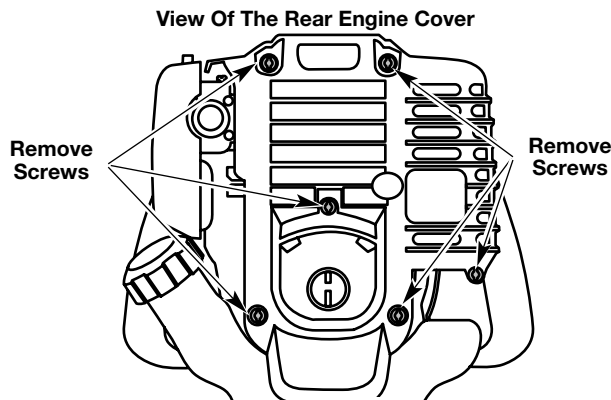

Fig. 51
1. Remove the six (6) screws on the back of the engine cover with a Flat-head or T-25 Torx screwdriver (Fig. 51).
4. Remove the engine cover (Fig. 51).
1. Stop the engine and allow it to cool. Remove the six (6) screws on the back of the engine cover with a Flat-head or T-25 Torx screwdriver (Fig. 51).